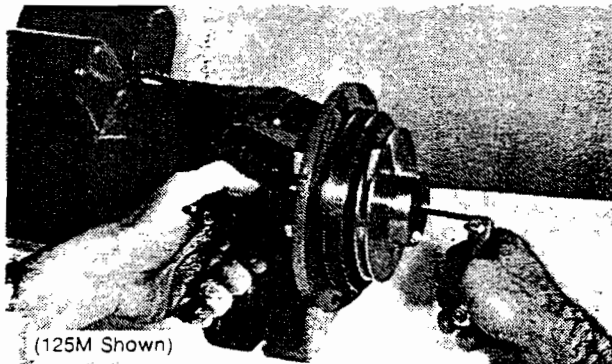

FIG. 2
- (a) Remove impeller by holding stub shaft with water pump pliers and unscrewing capscrew. (Fig. 2)